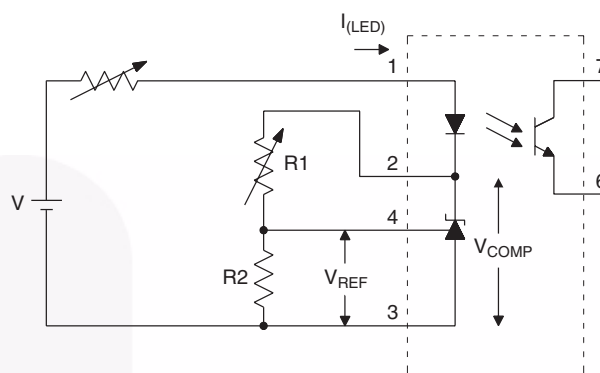

Figure 2.  $\Delta V_{REF} / \Delta V_{COMP}$  Test Circuit
3. The dynamic impedance is defined as  $|Z_{OUT}| = \Delta V_{COMP}/\Delta I_{LED}$ . When the device is operating with two external resistors (see Figure 2), the total dynamic impedance of the circuit is given by: